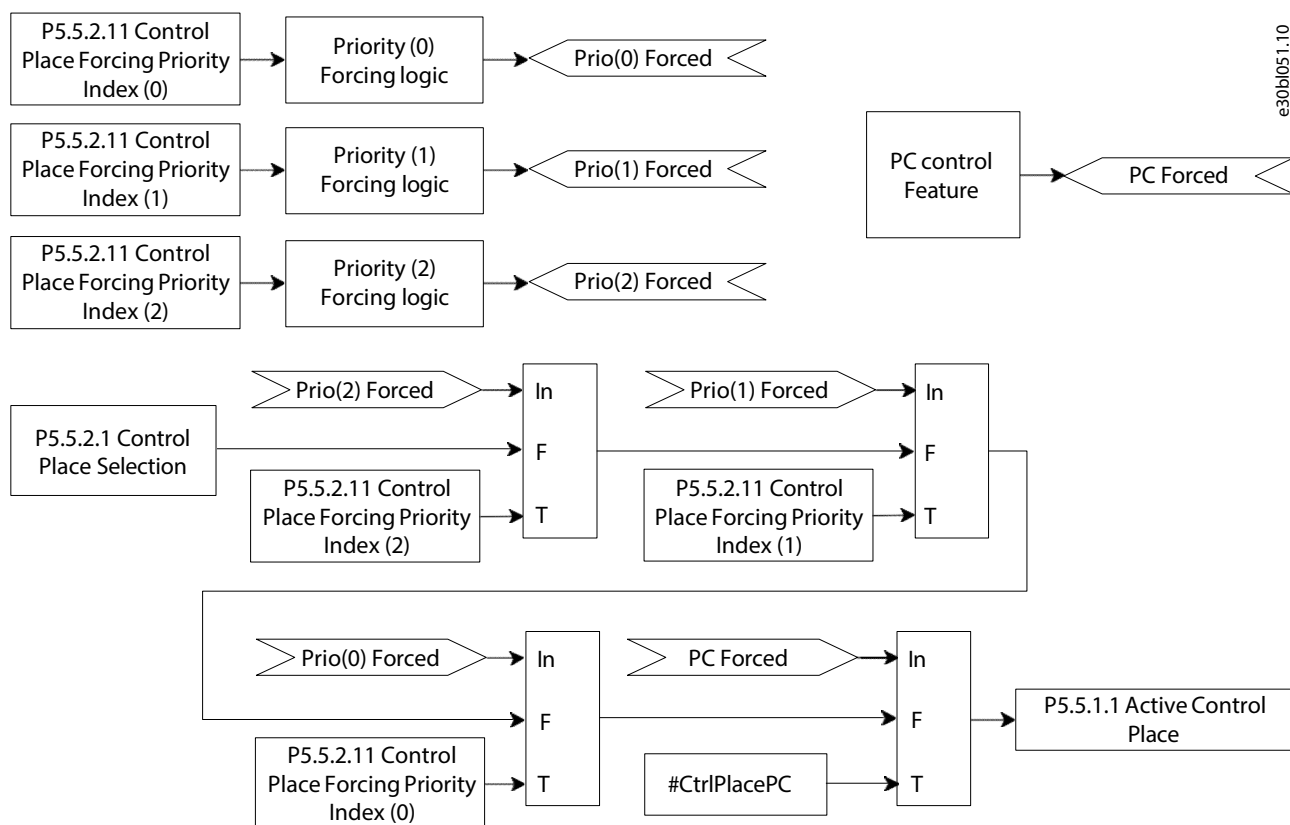

Figure 38: Control Place Priority Chain
Figure 38 shows the control place selection chain diagram. The default method for selecting the control place is by using the parameter **Control Place Selection (No. 114)**. It can be used to select the active control place between local (Control Panel), fieldbus, and I/O.
The priority order for control place forcing is configured with parameter **Control Place Forcing Priority (No. 4732)**. If two or more control places are forced active simultaneously, the priority order determines the final control place selection. For example, if fieldbus is selected for the highest priority (Index (0) in Figure 38) and I/O for the next highest priority (Index (1) in Figure 38), and both control places are forced active simultaneously, fieldbus is selected as the active control place because it has been configured for higher priority than I/O. After fieldbus forcing is removed, the control place will fall to I/O because it has higher priority than the parameter selection.